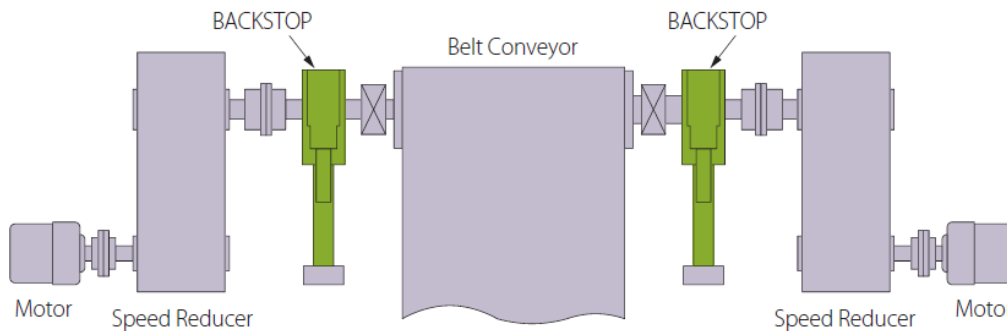

Figure 4
- In this type of Application, Dual Drives with tandem backstop arrangements on single pulley arrangements as shown in fig.4.
- If two backstops are located on the same shaft, as shown in Fig. 4, they will not initially share the load equally.